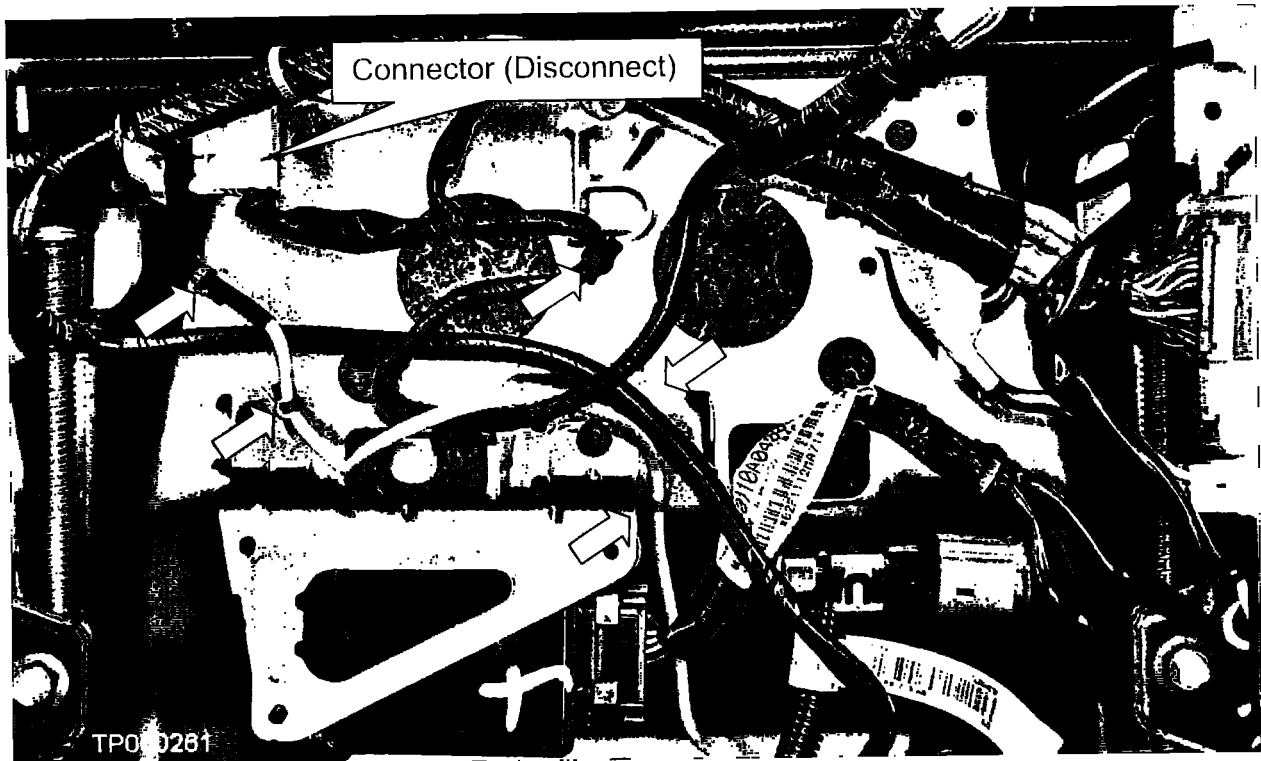

Figure 9
14. Disconnect the connector shown in Figure 9.
15. Disconnect the 5 harness clips shown in Figure 9 from the bottom of the seat cushion.